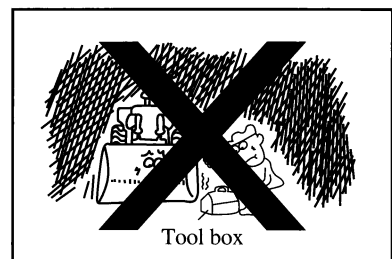

Figure 2-19
- Don't make any welding or fire-cutting on the pipelines or tanks which contain combustibile liquid. Before you make any welding or cutting, clean the pipeline first with non-combustibile cleaning solvent, then make welding and cutting. (Figure 2-19)